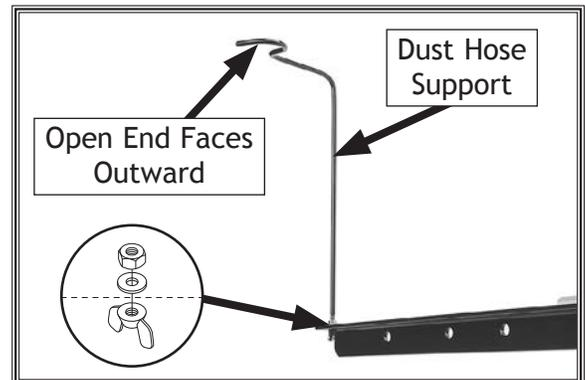

Figure 34. Dust hose support installed.
27. Attach dust hose support to rear rail with (1) M6-1 hex nut, 6mm flat washer, and M6-1 wing nut, as shown in Figure 34, so open end of hook faces outward.